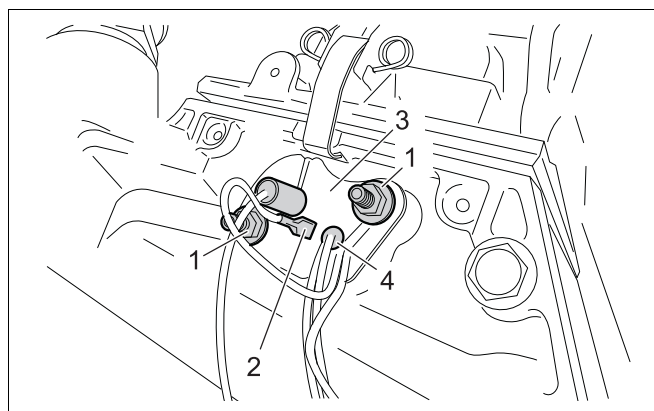

fig. 29 Replacing the ionization electrode
- Loosen the fastening screws (see fig. 29, pos. 1).
- Remove the earth cable (see fig. 29, pos. 2).
- Remove the mounting plate (see fig. 29, pos. 3).
- Dismantle the ionization electrode (see fig. 29, pos. 4).
- Fit the earth cable (see fig. 29, pos. 2).